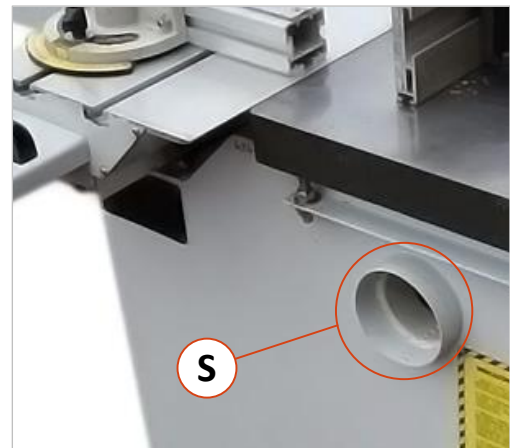

Figure 8: Suction nozzle
- The two suction nozzles (S) at the safety fence and on the right side of the machine (see ⇒ Figure 8) have a diameter of 120 mm.